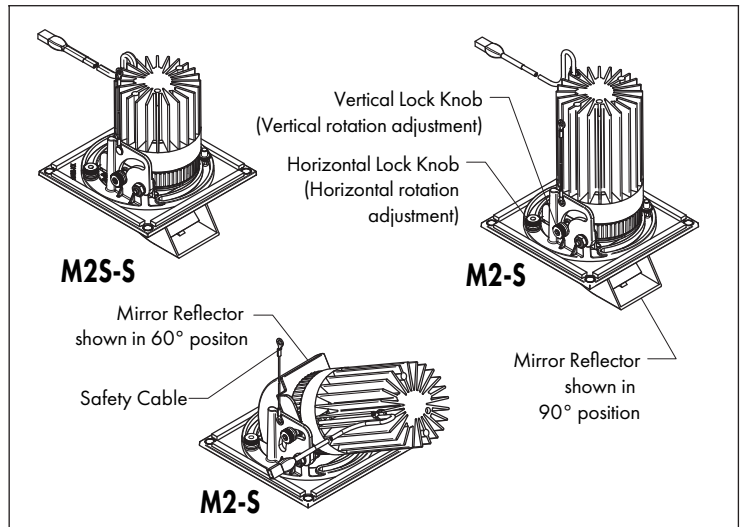

FIG 13.3 Lamp Module Adjustment
STEP 2 Adjust vertical to 90° position as shown in **FIG 13.3**. Note: angle adjustment is limited on ceilings over 5/8" thick & when Mirror Reflector is aligned facing narrow sides of Housing.